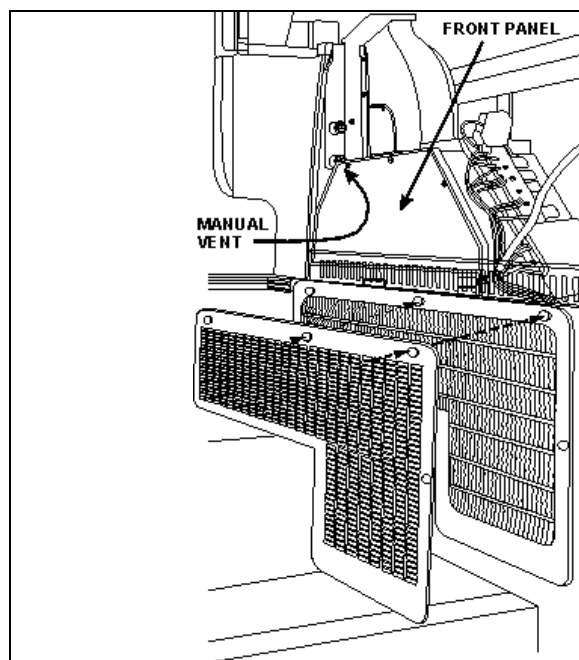

FIGURE 43: DRIVER'S HVAC UNIT
4. From inside of vehicle, remove the two finishing panels in front of unit. Remove the three screws fixing the unit front panel. Open the manual vent located inside the HVAC unit, on the driver's side (Fig. 43) to ensure an efficient draining.